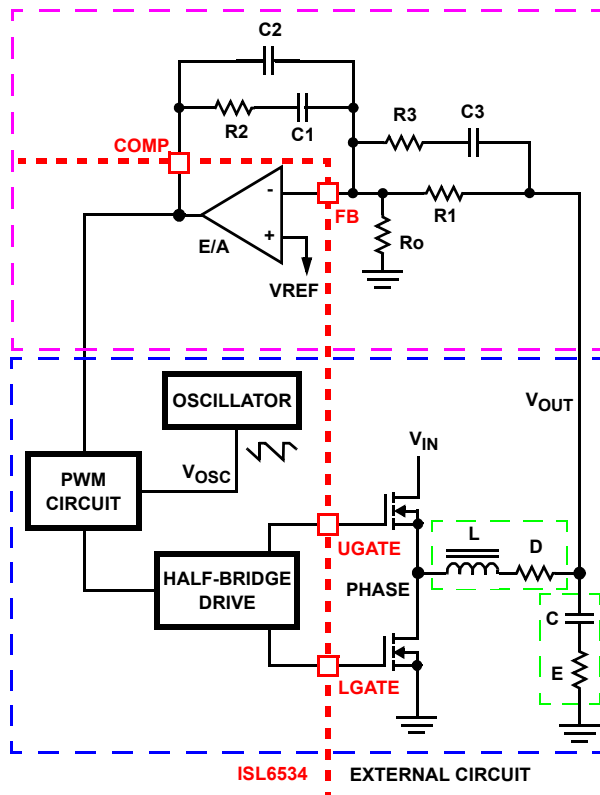

FIGURE 16. VOLTAGE-MODE BUCK CONVERTER COMPENSATION DESIGN
Figure 16 highlights the voltage-mode control loop for a synchronous-rectified buck converter, applicable to the ISL6534 circuit. The output voltage ( $V_{OUT}$ ) is regulated to the reference voltage,  $V_{REF}$ . The error amplifier output (COMP pin voltage) is compared with the oscillator (OSC) modified sawtooth wave to provide a pulse-width modulated wave with an amplitude of  $V_{IN}$  at the PHASE node. The PWM wave is smoothed by the output filter (L and C). The output filter capacitor bank's equivalent series resistance is represented by the series resistor E.
5. Select a value for R1 (1k $\Omega$  to 5k $\Omega$ , typically). Calculate value for R2 for desired converter bandwidth ( $F_0$ ). If setting the output voltage via an offset resistor connected to the FB pin,  $R_o$  in Figure 16, the design procedure can be followed as presented.